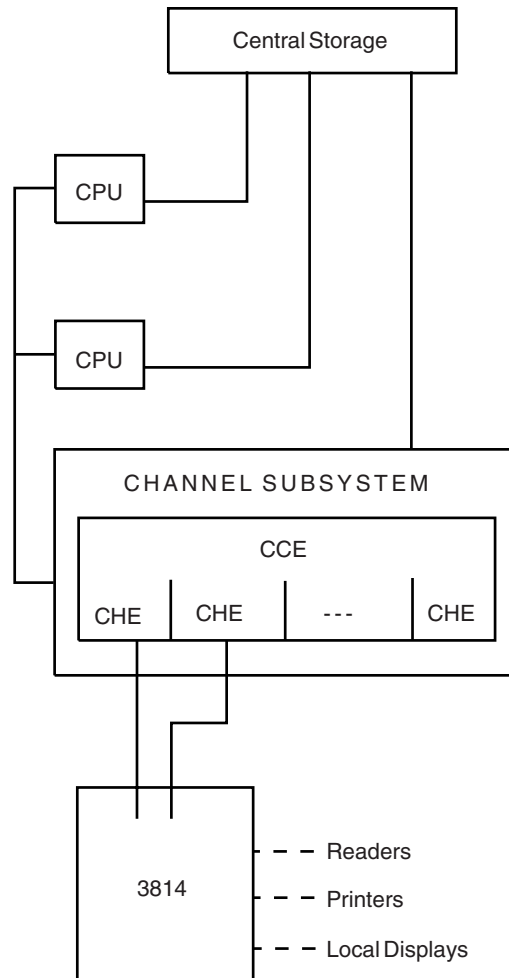

Figure 12-7. Unit Record or Local Display Device Configuration for Maximum Availability (3090 Complex)
- Figure 12-7 on page 12-7: Unit record or local display device